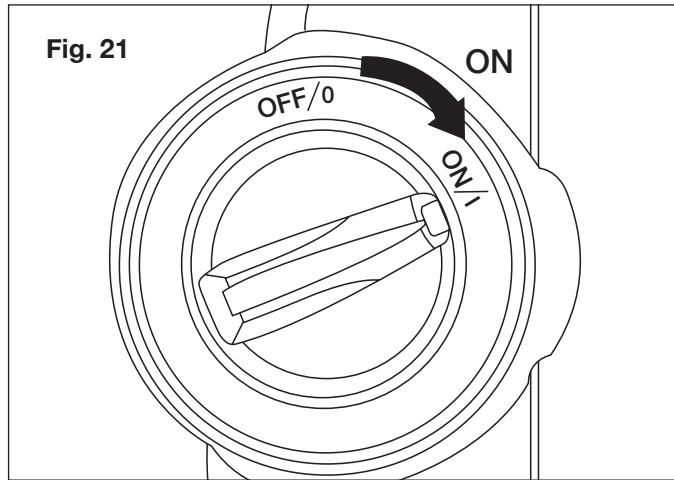

Fig. 21
3. Turn the switch to the ON (I) position to start the pressure washer (Fig. 21).